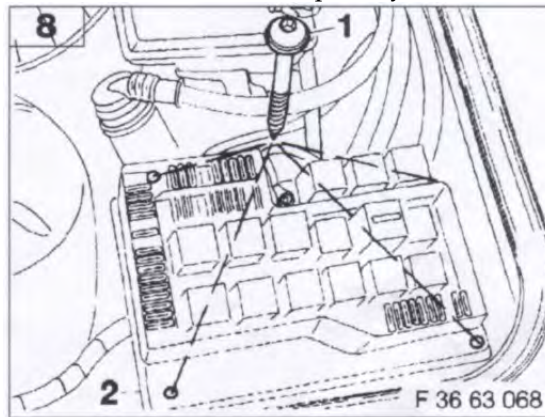

Figure 7 – Removing Fuse Box Cover T10 Screws (Item 1)
5.8 Remove Fuse Box Lid and Cover (Figure 7). Four T10 Torx screws (61-13-1-392-845) hold the cover in place. I bought spares because these screws strip easily.